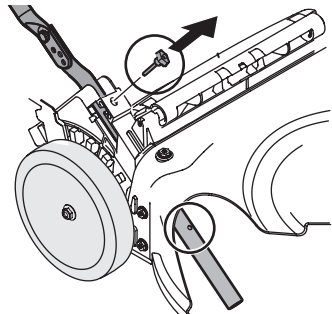
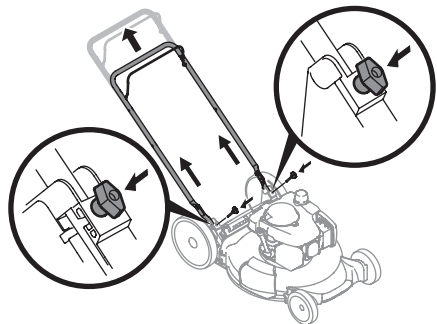

Figure 3
Figure 4
4. Remove T-bolts from the handle brackets (Figure 3).
5. Pull upward on the handle (Figure 4) until holes in lower handle line up with holes in handle brackets (Figure 3, deck cutaway).
- Insert the T-bolts removed in STEP 4 through the handle brackets, lower handle (Figure 4 on page 7) and tighten securely to secure the handle in place.